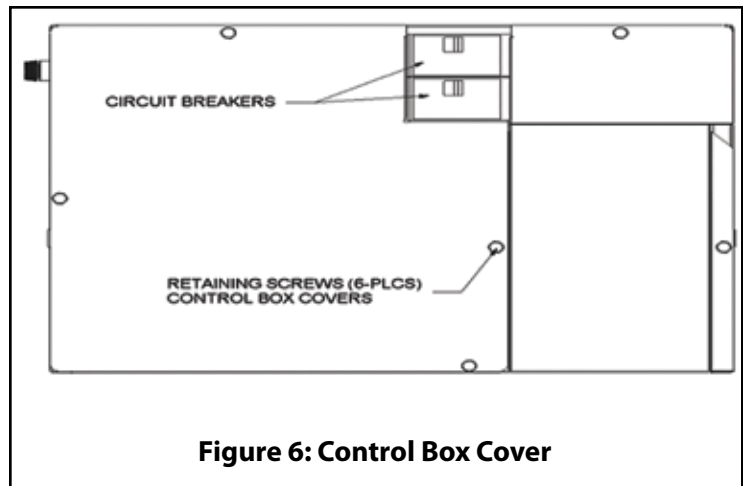

Figure 6: Control Box Cover
4. Remove the screws on the control box covers and remove both covers (See Figure 6).